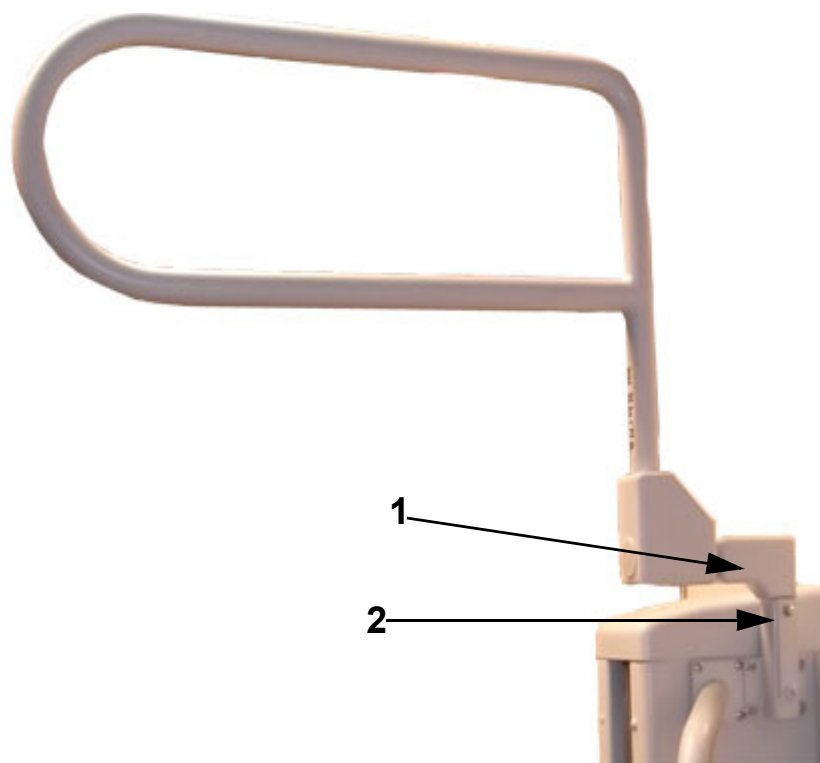

Figure 3-8. Handgrip Insertion
Insert the handgrip post (1 in Figure 3-8) into the socket (2) on the back of the wallstand. There are two sockets available, either can be used.